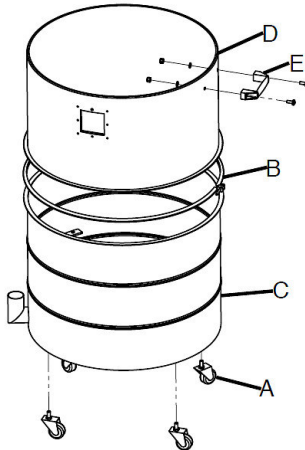

Fig. 9: Assemble collection container
Step 9: Mount the 4 rollers (A, Fig.9) on the collection container (C, Fig.9).
Step 10: Attach the collection container (C, Fig.9) to the housing (D, Fig.9) using a clamp (B, Fig.9).
Step 11: Mount the handle (E, Fig.9) on the housing (D, Fig.9).